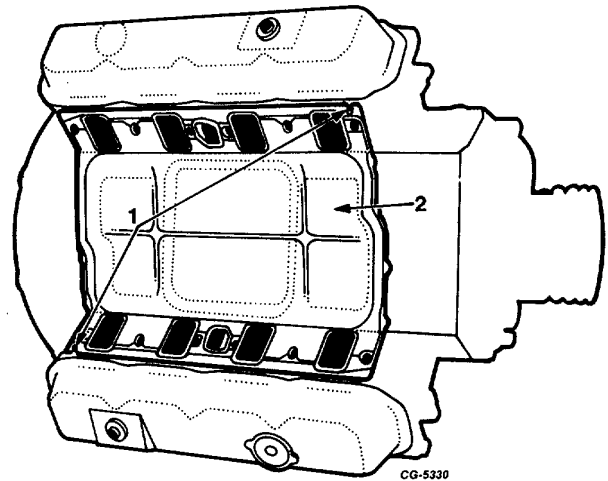

Fig. 37 Removing Tappet Cover and Intake Manifold Gasket Assembly
37. Remove any dirt or foreign matter that may have accumulated around the top edge of the tappet cover; then remove tappet cover and intake manifold gasket assembly, Figure 37.